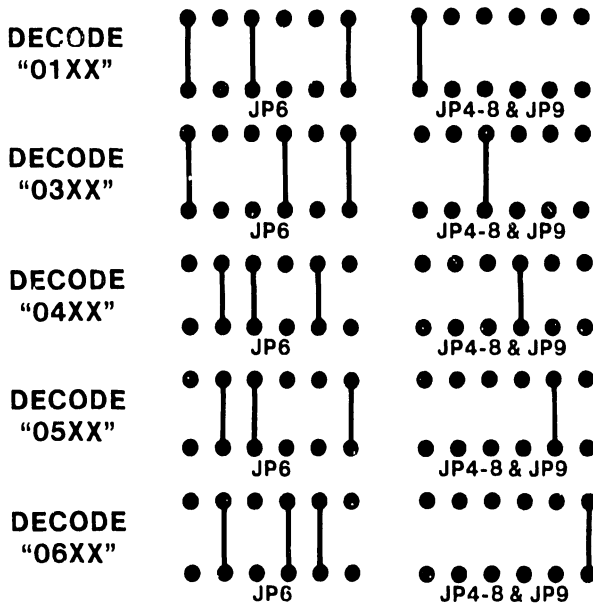

Figure 5-14. 210-8362 Winchester Disk Device Adapter Connector and Jumper Locations
3. Check the disk drive type/maximum number of heads switches SW1 and SW2 (figure 5-13), and jumpers (figure 5-14) on the new device adapter and install the adapter in Motherboard slot #5 as described in 5.3.2.5.1. (Both switches are set identically.)